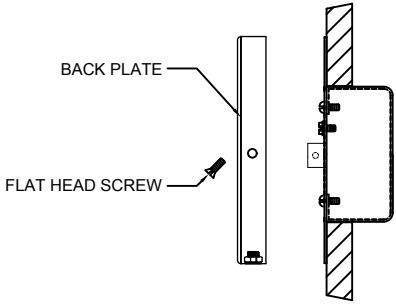

FIGURE-02
5. Attach the fixture to the mounting ring w/ wing and secure it with flathead screws. (See Figure-02)